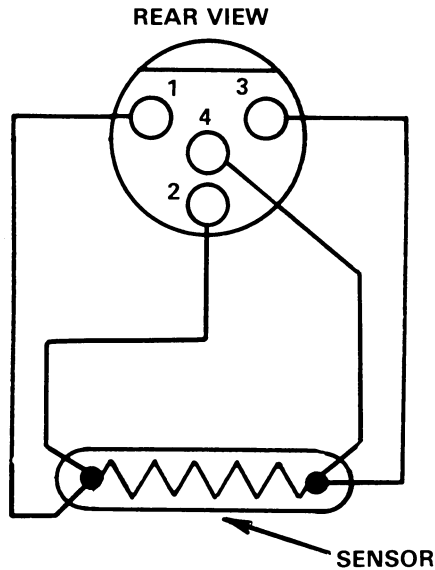

Figure 2-9. Model 195A Probe Wiring
3. Connect the temperature probe to the jack on the front of the adapter. If desired, a probe may be wired using the connections shown in Figure 2-9.